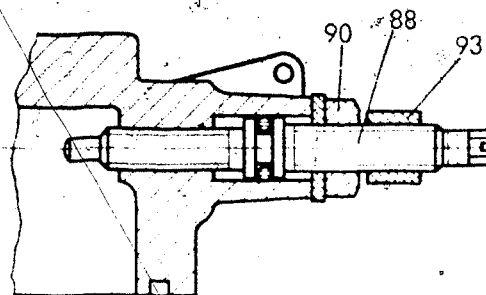

Fig. 3
All VE..F.. distributor-type fuel-injection pumps are being provided with longer threaded pins (88) as full-load stop screws. These threaded pins are secured by way of an external spacer sleeve (93) (Fig. 3). The previous internal spacer sleeve between the housing cover and threaded pin is no longer necessary.